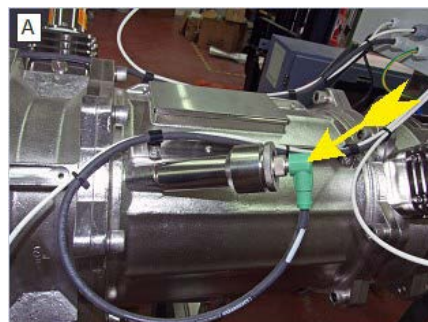

Figure 10-41: Removing a Sensor A (Generic View)
- Step 1.** Before removing the UVIS sensor, look at the point where the millimeter scale on the sensor touches the securing nut (**A** in **Figure 10-41**).
- Step 8.** When you return the sensor to its place, make sure to insert it to the same reference point on the mm scale (**A** in **Figure 10-41**) recorded in **Step 1.** on page **10-152**.